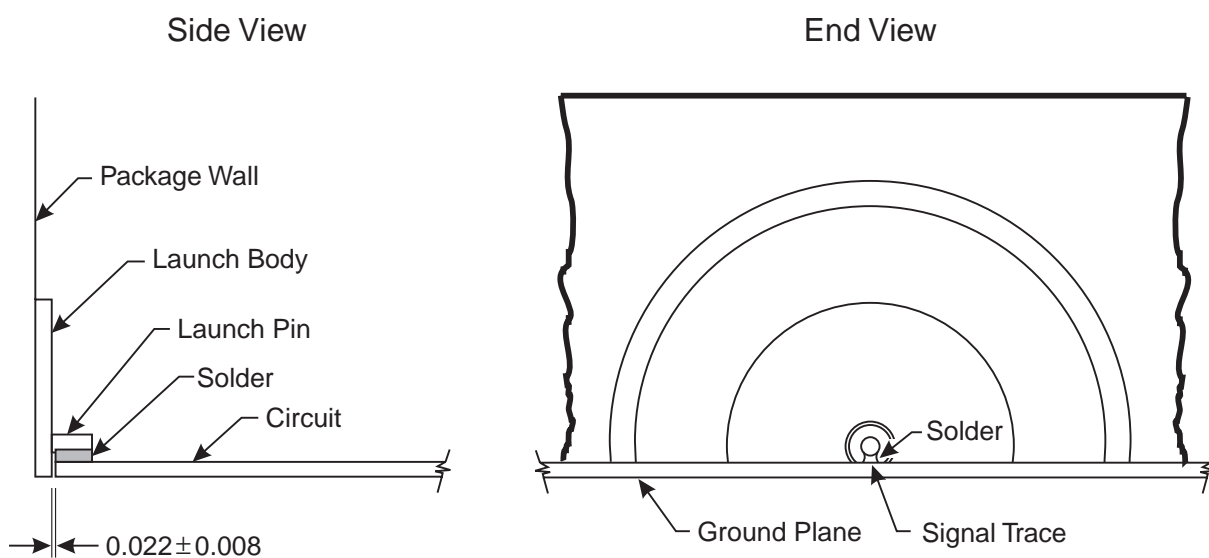

Figure 3-2 *Circuit Mounting Detail*
2. For the best match, place the edge of the circuit 0.022 ± 0.008 mm from the end of the outer body of the launch. Refer to Figure 3-2.